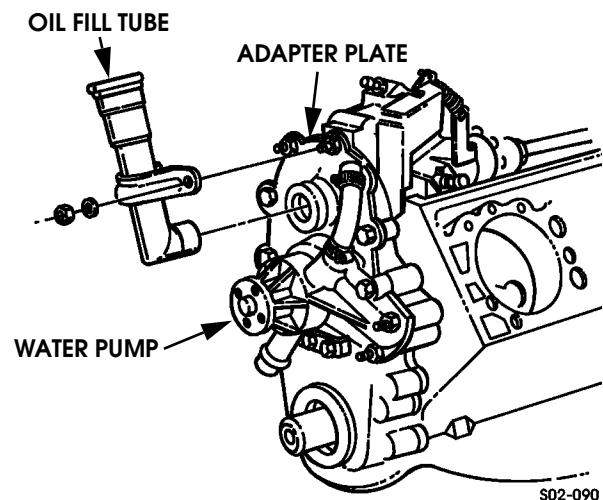

Figure 2-105: Oil Fill Tube Removal
1. Remove oil fill tube from adapter plate (Figure 2-105).